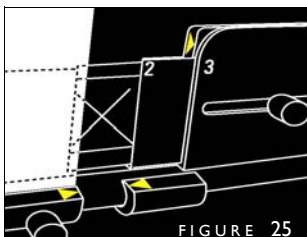

FIGURE 25
6. To make your front spine edge score, slide your cover over so its right edge lines up with **the point** of the left yellow arrow on the back of the Book Thickness Rings (Figure 25). Push the Lever to the left to score.